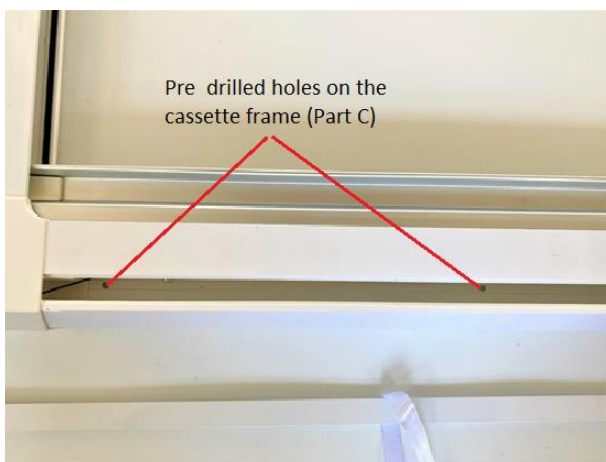

Fig 28
- Mark the location(s) of these holes (Fig 28) the inner frame (F3) making sure it is level. Once you are happy with the alignment you can drill some pilot holes using a centre punch on the marked location to avoid drill bit slipping and damaging the frame) then screw the cassette frame (F4) with some self-tapping screws to the inner frame (F3), making sure that the blackout blinds are at the bottom and close upwards.